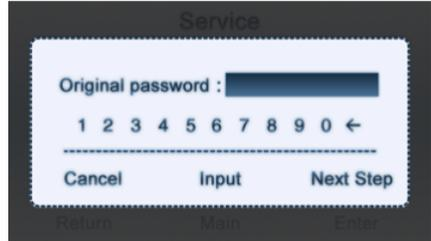
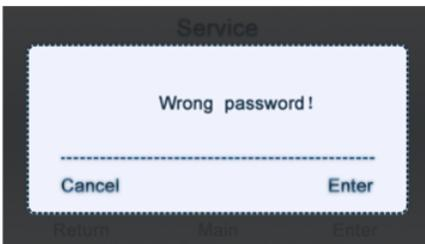

Figure 8
Figure 9
- B. Press the “upward” key or “downward” key to select “password” and press “Enter” key to initiate password setting, which is shown in Figure8. Password setting is intended for changing only the password of a common user.
- C. Press the “leftward” key and “rightward” key to select in the line of numbers; press the “input” key to fix the selected numbers in the password box. When password entry is completed, press the right key to proceed with “next step”. If the original password is input incorrectly, a window prompting “Wrong password” will pop out as shown in Figure 9. Press “Enter” or “Cancel” in this window to return to the figure 8.